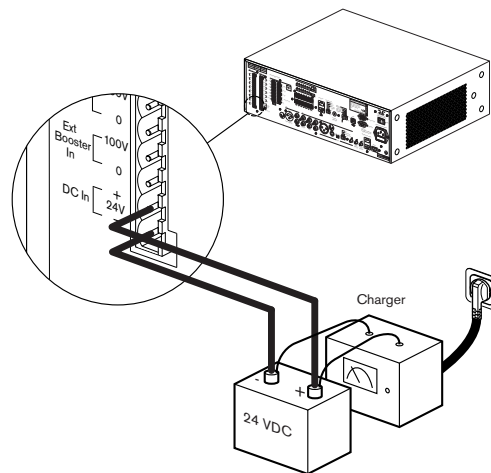

Figure 5.18 Connecting a back-up power supply
The voice alarm controller has a 24 V(DC) input to connect a back-up power supply (e.g. a battery) which powers the system if the mains power is not available. See *Figure 5.18* for connection details.